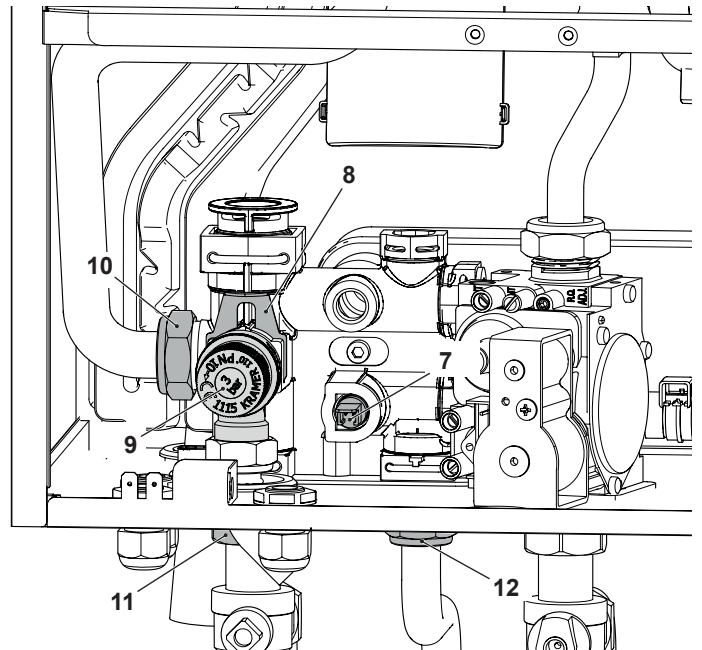

Figure 8.5
- 4 Disconnect D.H.W. temperature probe NTC "7" (Figure 8.5).
- 5 Remove the fixing spring "8" and remove the C.H. pressure relief valve "9" Figure 8.5.
- 6 Unscrew the connector "10", the C.H. flow connector "11" and the D.H.W. outlet connector "12" (Figure 8.5).